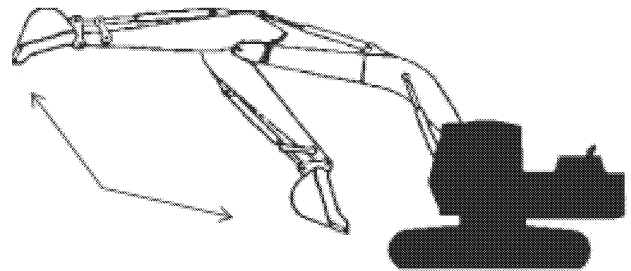

FIGURE 3.6
6. At full stroke of the control, bring the arm all the way in (extending cylinder) and measure the time it takes for the arm cylinder to reach the cushion stroke. Record the time. See Figure 3.6.
7. At full stroke of the control, fully extend the arm (retracting cylinder) and measure the time it takes until the cylinder reaches the cushion stroke. Record the time. See Figure 3.6.